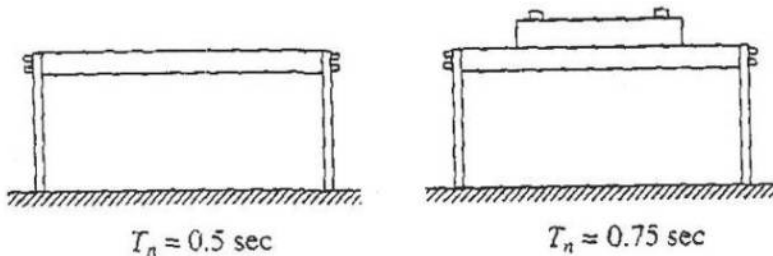

Figure 1
1. A heavy table in **Figure 1** is supported by flat steel legs. (10)